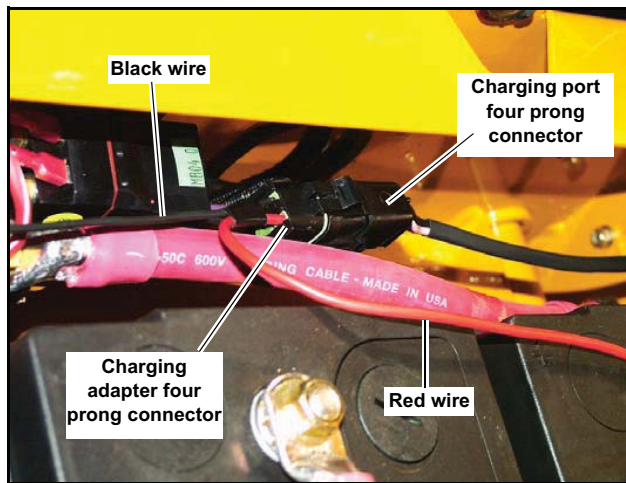

Fig. 5-12
7. Connect the charging adapter to the charger port connector. Fig. 5-12
3. Disconnect the charging adapter from the charger port connector. Fig. 5-12